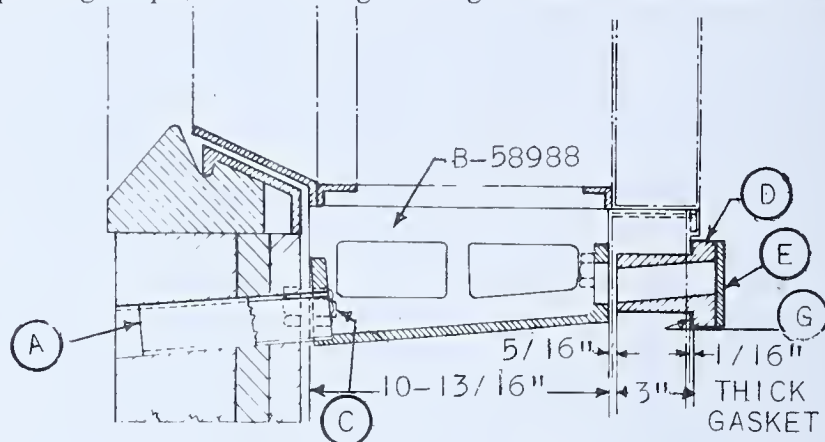

FIG. 533 — Drains and Riders
4. Install four drains *A* into the four riders, pc. mk. B-58988, shown in Fig. 533, and bolt into place as shown at *C*.